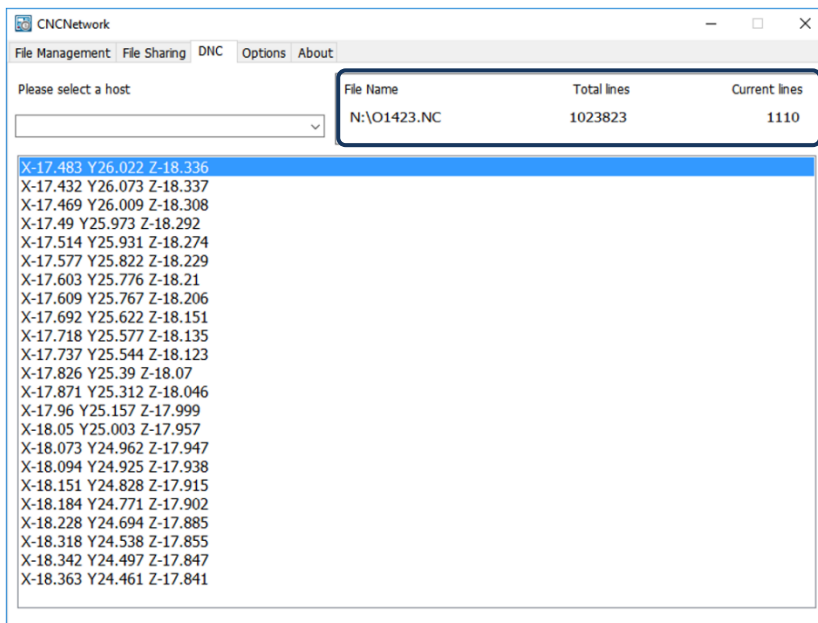

Figure 7.1.6
- (5) The screen displays the shared files. Select and open the G-code file that has been set to be shared.
- (6) Set the system to AUTO mode, press **CYCLE START**, and the system executes the G-code file by DNC operation. The execution method is the same as that for general files.
- (7) During DNC operation, file information is displayed in the **DNC** screen of CNCNetwork. The information includes name of the connecting system, name of the file that executes DNC, total number of lines, number of line being executed, and file content (the content is scrolled down along with the execution progress, as shown in Figure 7.1.6).